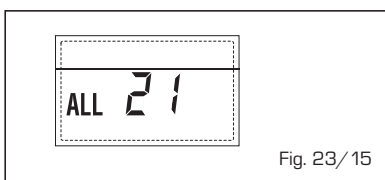

Fig. 23/15
- SAFETY THERMOSTAT INTERVENTION SECOND MIXED ZONE "ALL 22" (fig. 23/16)